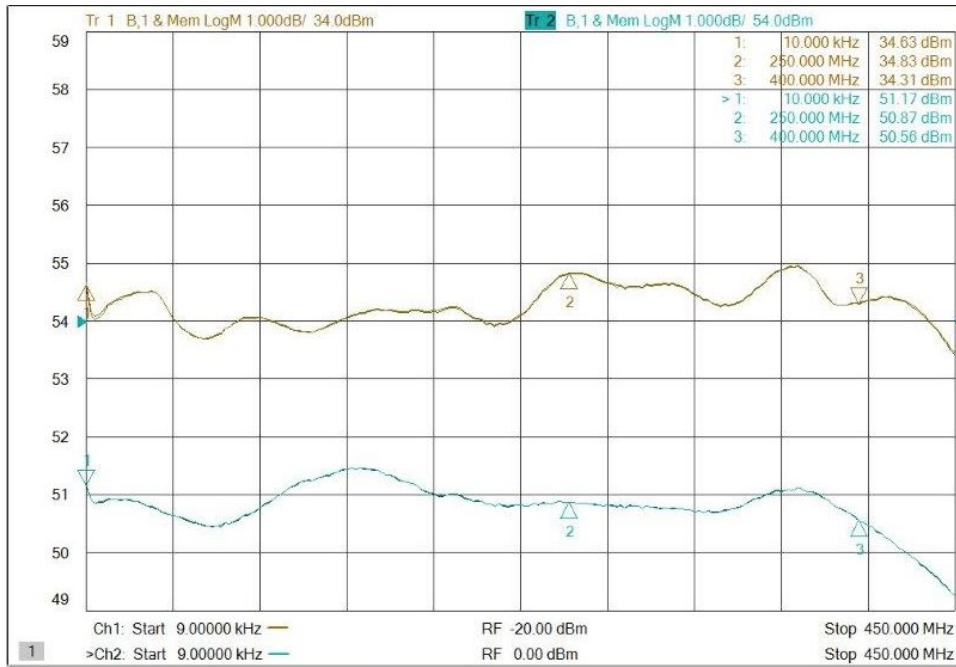

Figure 4-1. Typical Response at -20 dBm Input and 0 dBm Input
- The Model 100A400A's typical gain response at 0 dBm input and -20 dBm input is shown in Figure 4-1. The actual gain may vary from that shown in Figure 4-1 but should be ≥ 50 dBm.